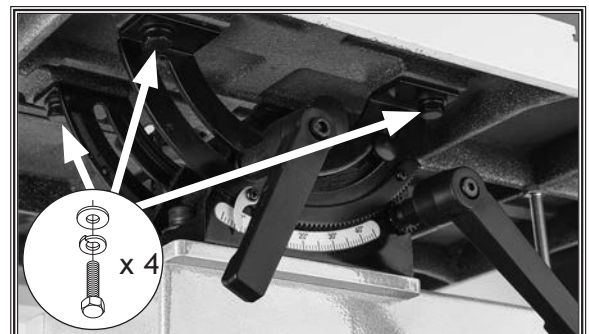

Figure 22. Table-to-trunnion mounting hardware installed.
5. Secure table to trunnion using (4) M8-1.25 x 16 hex bolts, (4) 8mm lock washers, and (4) 8mm flat washers (see **Figure 22**).